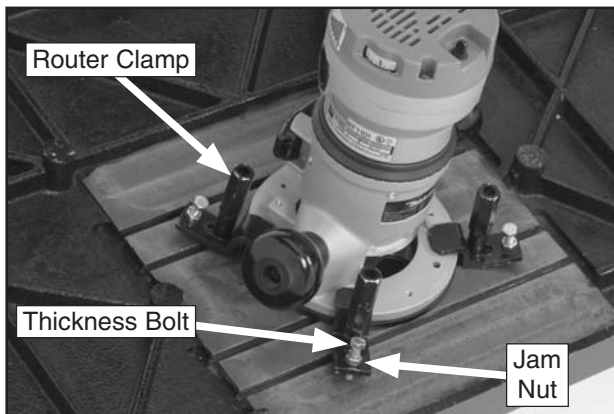

Figure 36. Router mounted under wing.
2. Loosen the router clamps, and install the router so the base presses flat against the underside of the table (**Figure 36**).